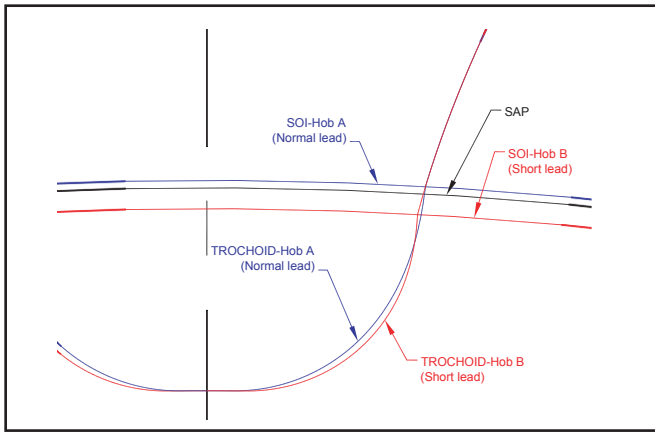

Figure 13—Trochoid curves generated with a normal lead and a short-lead hob.
Therefore, hob (A) does not provide the required grinding stock while keeping the SOI below the required SAP. In order to push the SOI closer to the root diameter, a short lead hob (B) was designed. The hob had a 14.5° reference normal pressure angle. The calculated SOI based on the short lead hob (B) was 4.4550", smaller than the SAP. Hob B provided the required finishing stock with satisfactory SOI (see Fig. 13).